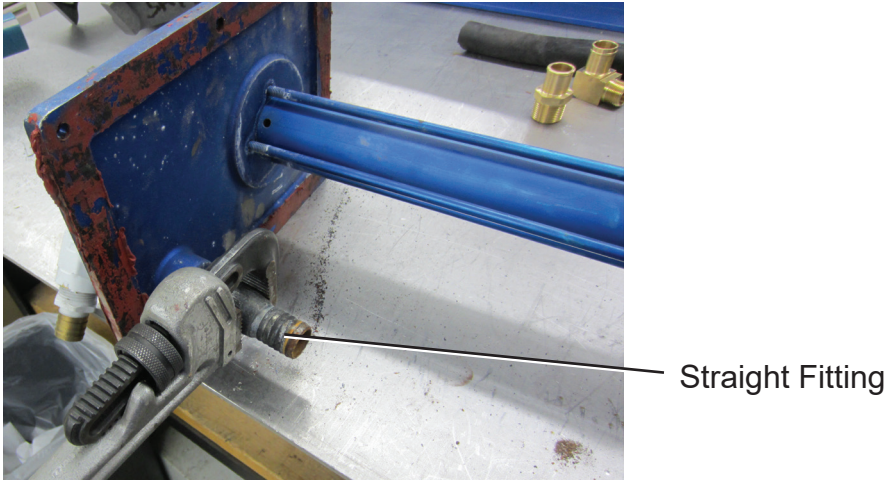

Figure 3
8. Remove straight fitting from the bottom of pump assembly mounting plate, see Figure 3. Straight fitting will not be reused.